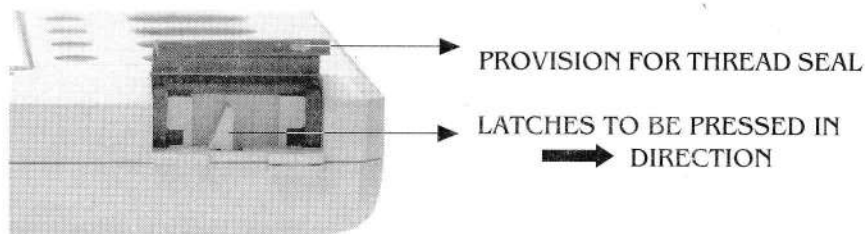

FIG. 14 View of Latches
2. After taking out the Ballot Unit from the carrying case, the top cover of the unit may be opened carefully by pressing simultaneously, towards the right, the latches at the top and bottom on the right edge of the unit (Fig. 14) and swinging the cover up (Fig. 5).